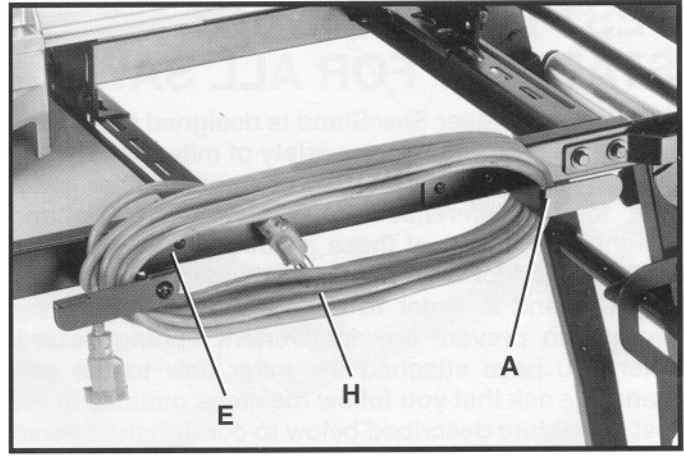

Fig. 42
5. Fig. 42, illustrates an extension cord (H) wrapped around brackets (A) and (E).